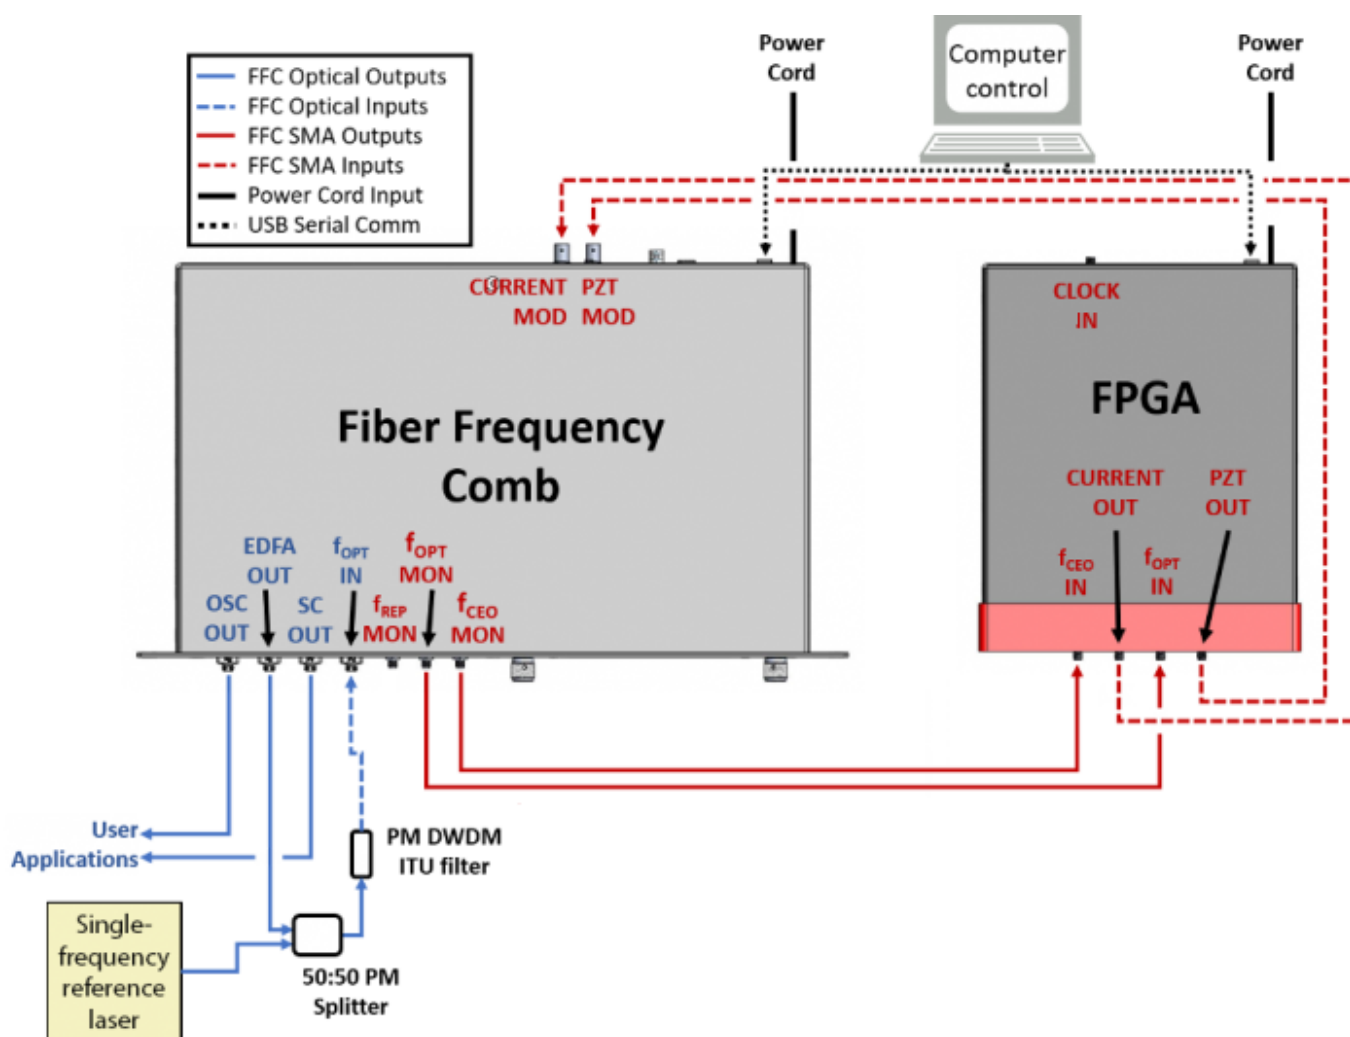

Fig. 22: FFC-100 electrical and optical connection diagram (Click for larger image)
2. Ensure all cables and fibers are connected according to the connection diagram shown in figure 22.⁸⁾ Use of the internal FPGA clock is recommended.